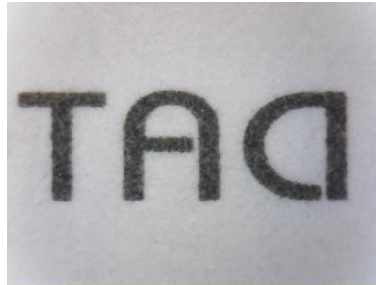

Fig 3-20 Video image do horizontal flip
- ⊕ Horizontal Flip “” : The video image left and right mirror 180 degree flip which is horizontal flip shown in Fig. 3-20 °